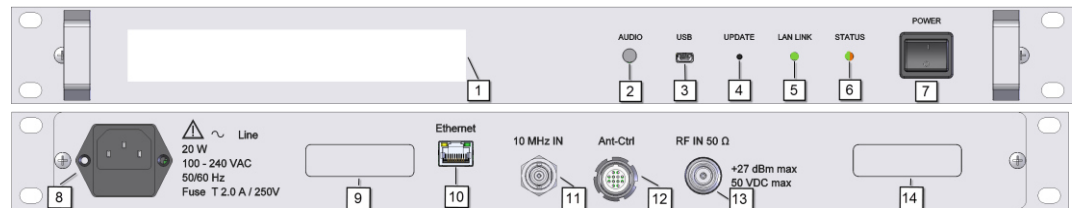

Figure 1: Overview of front and back panels
- ▶ Connect the device to the network using the Ethernet connection (Figure 1: 7).
Connect the device to a PC using the USB connection (Figure 1: 1).
- ▶ Connect the AC power input on the device (Figure 1: 6) to the AC power supply using the AC power cord supplied with the device.